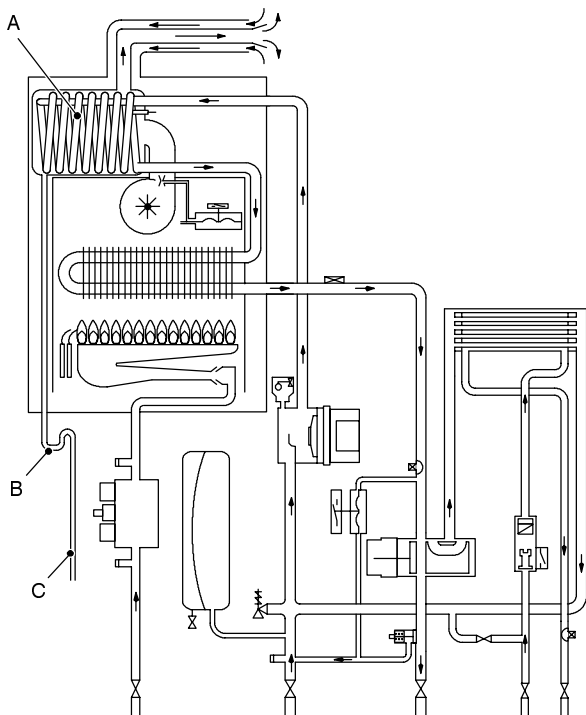
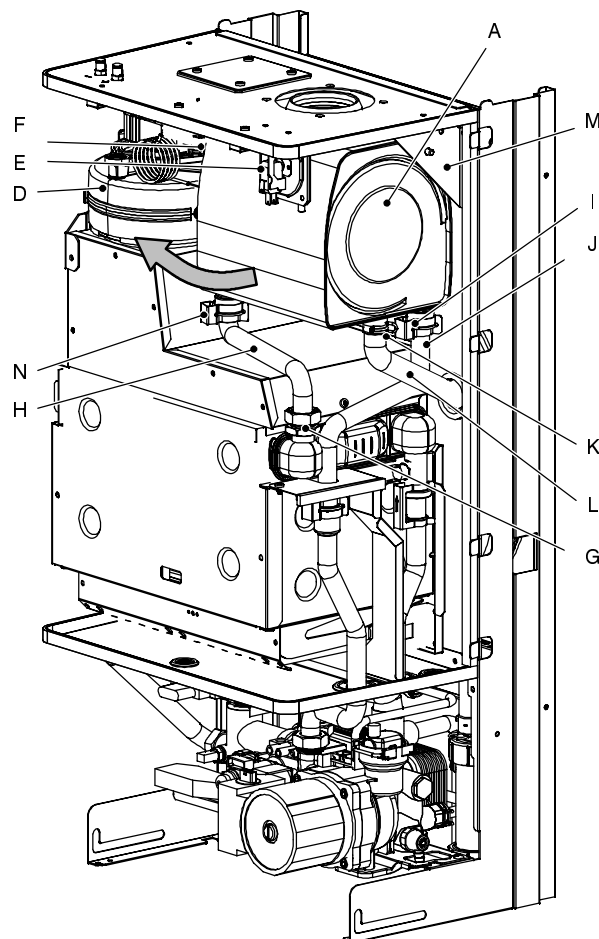

Fig. 12
Fig. 13
The return water flows through the condensing heat exchanger *A* in Fig. 12 and Fig. 13.
- 3 Remove the fan *D* in Fig. 13 (see section 17.3) and the air pressure switch *E* (see section 17.5).